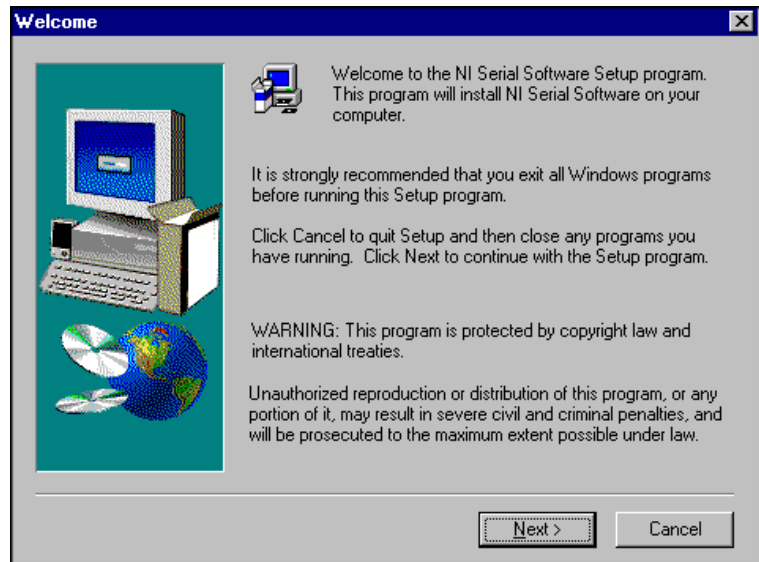

Figure 2-2. NI Serial Setup Screen
6. The setup wizard begins with the screen shown in Figure 2-2.